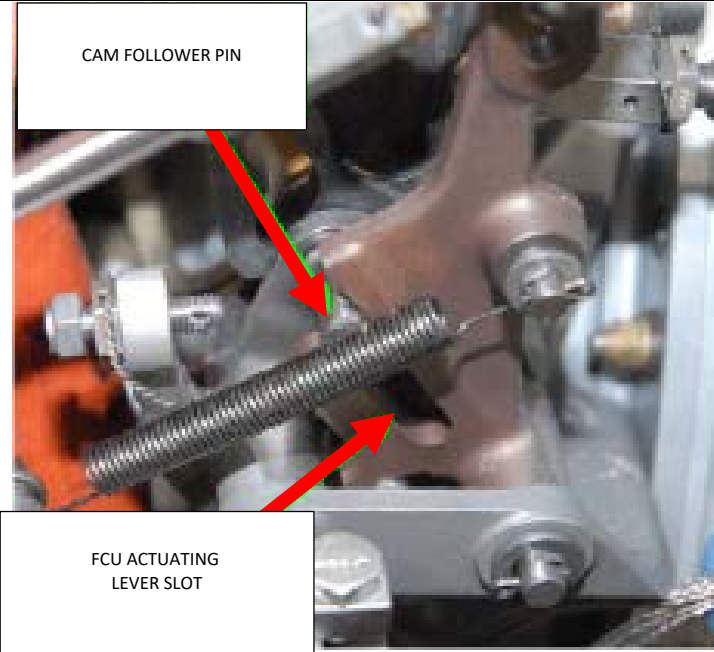
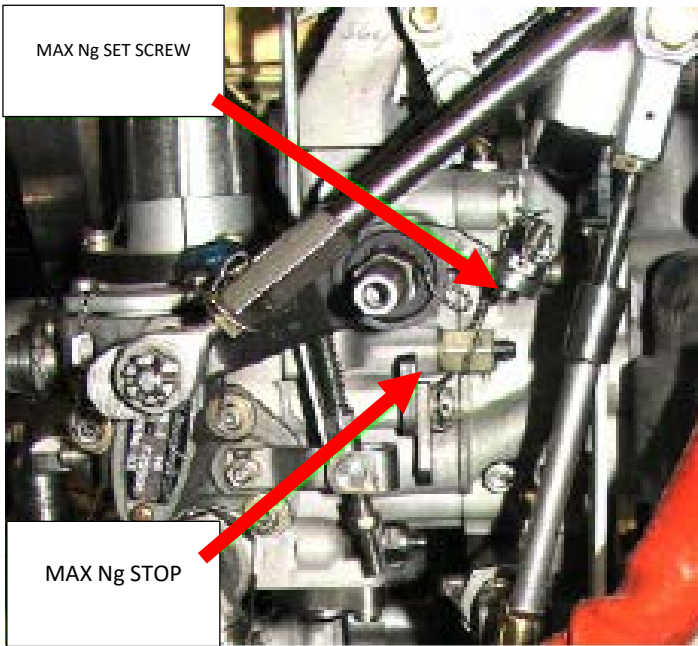

Figure 76-7 - Cam Follower Pin (Shown at Idle)
Figure 76-8 - Max Ng Stop and Set Screw (Shown at Idle)
- 3 Check that the Power Control Lever in the cockpit moves through the full range of forward travel without binding. (DO NOT PULL LEVER INTO BETA/REVERSE.) When the power is set to MAX, check the FCU arm max Ng screw contacts the Max Ng stop firmly when the cockpit control has at least 1/8" gap (cushion) from the edge of the quadrant cover slot (REF FIGURE 76-8). When the power is set to MAX, check the Cam Follower Pin does not contact the bottom of the FCU Actuating Lever slot (REF FIGURE 76-7). After Adjustments and operational checks of cockpit Power Control Lever are satisfactory. Check tightness of hardware and install safety's that were removed to make adjustments.